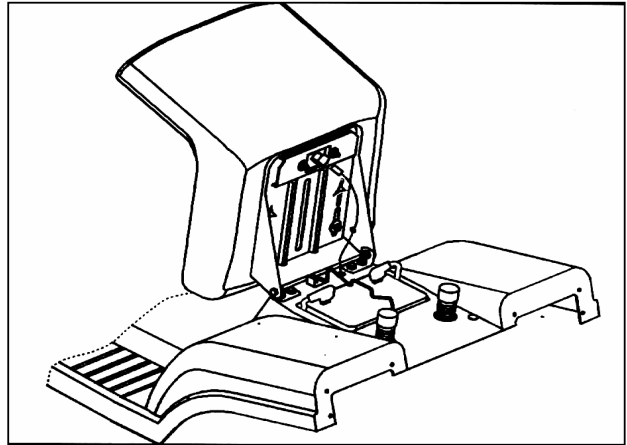

Fig. 8
5. Re-install the battery and secure it with the spring lever (See Fig. 8).